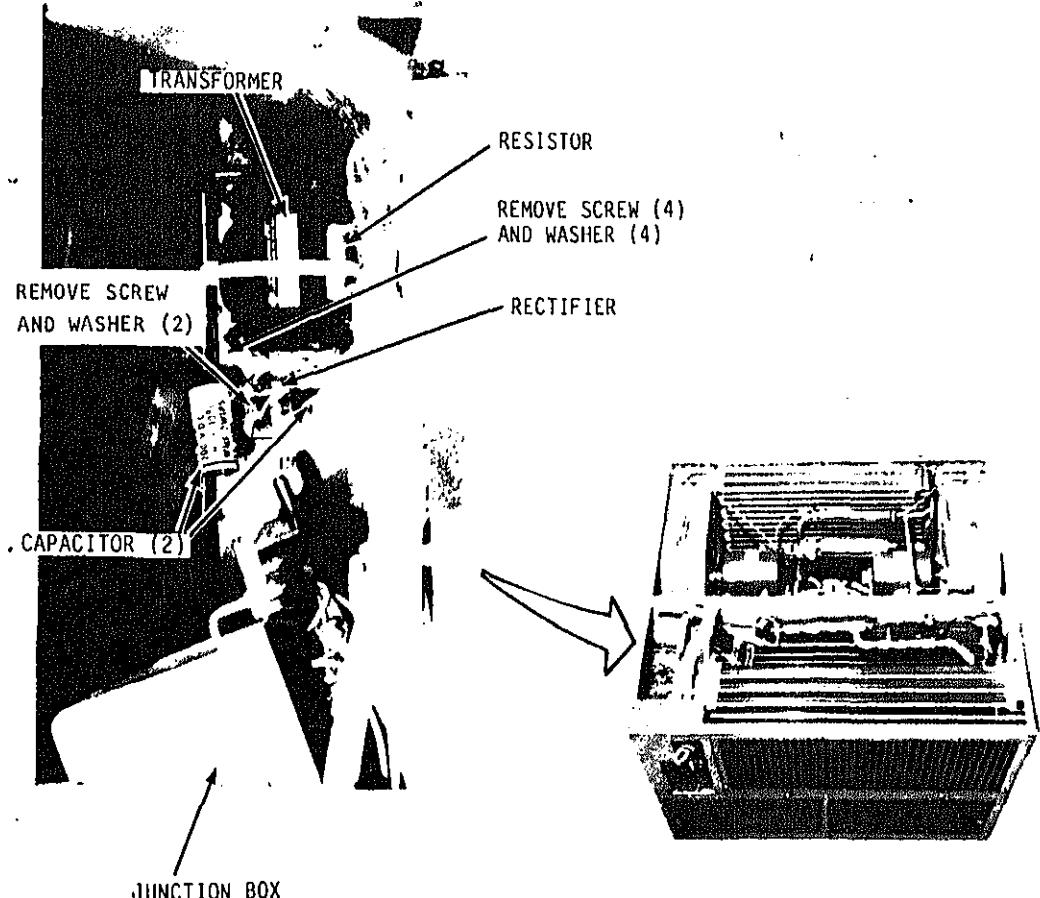

figure 4-17. Transformer, resistor, rectifier and capacitors, removal and installation
(2) Refer to figure 4-17 and move the transformer and resistor. Move resistor from transformer if it is faulty when tested as follows.
1) Refer to figure 4-17 and install the transformer and resistor.
(2) Refer to figure 4-17 and detach the cable from the rectifier.
(3) Remove the capacitors from the rectifier cable terminals.
(4) Remove the rectifier by removing the two mounting screws and washers.
(1) Refer to figure 4-17 and in-